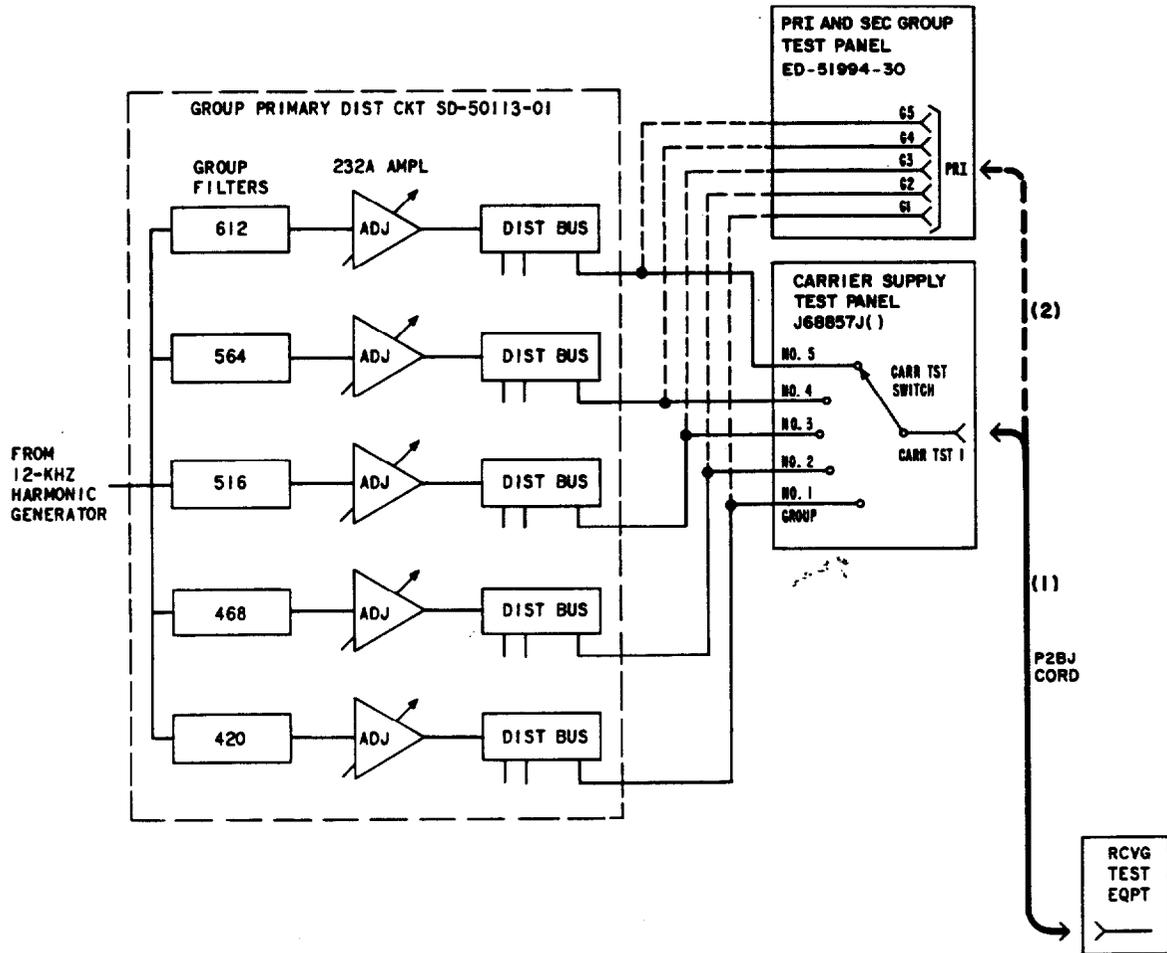

Fig. 2—Group Carrier Supply—Measurement of Group Primary Distribution Circuit Output Power
This section is reissued to update Table A and Fig. 2 for the testing of latest equipment configurations.
- 2 Identify the equipment carrier test panel in use and refer to Fig. 2.
- 3 (a) On test panel J68857J( ) connect the RTE to the CARR TST 1 jack [Patch (1) Fig. 2], and set the CARR TST switch for the group frequency under test. See Table A.
(b) On test panel ED-51994-30( ), connect the RTE to the G( ) test jack [Patch (2) Fig. 2] for the group frequency under test. See Table A.
- 7 Remove P2BJ patch cord in Fig. 2.